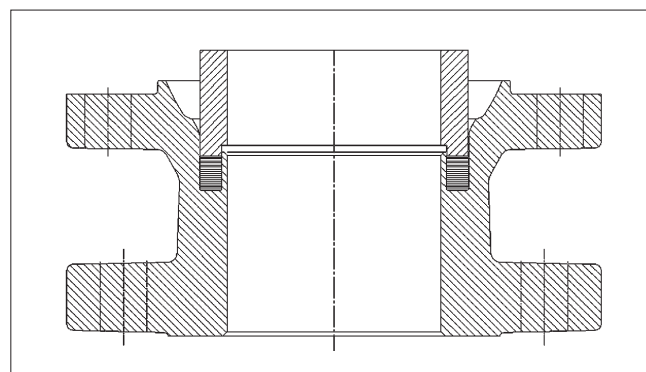

Fig. 20 Compressing the J seat
- Place the ball on the locked seat so that the slot faces the shaft entrance opening. Push the shaft (5) into the valve from outside. Make sure that the end of the shaft fits into the ball slot.
- Assemble the seat (25), spring (62), back seal (75) and back-up ring (76), see Fig. 20, and place the assembly in the body cap (2).
- Set back seal pressing tool on top of seal stack as seen in Fig. 20.